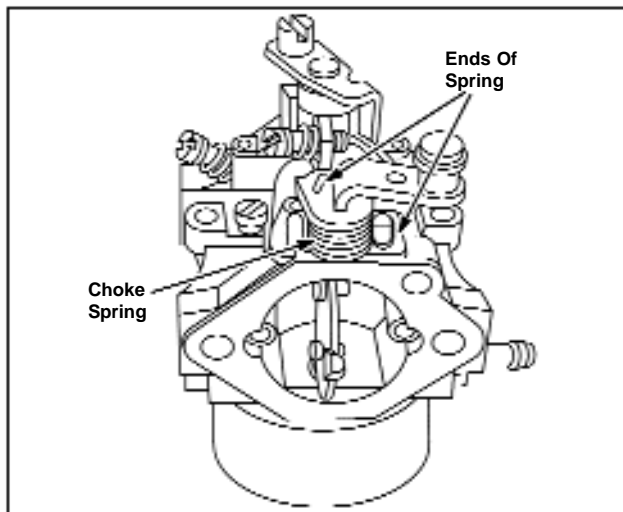

Figure 25 - Installing Choke Spring
3. Place short bushing on bottom of choke shaft and install in carburetor making sure that choke shaft retainer stop is between carburetor body stop and detent spring, Figure 25. This positions shaft to install choke valve.